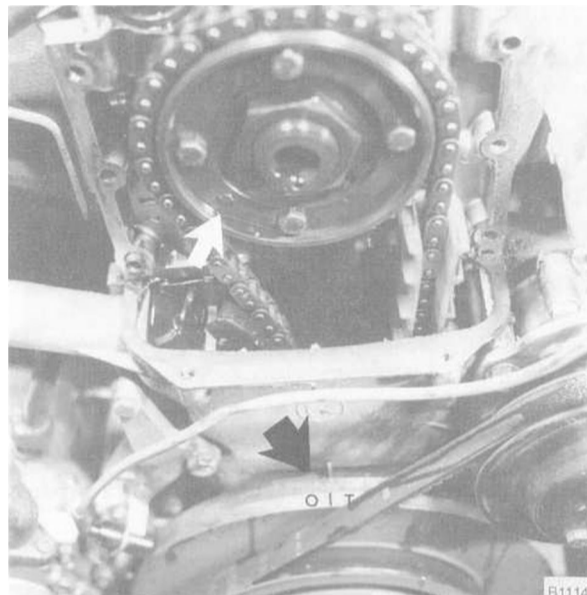

Fig. 25. OAT (top dead center) mark on vibration damper aligned with mark on timing chain cover (arrow). Note position of sprocket locating dowel.
At TDC, the 0/T mark on the vibration damper will be aligned with the cast boss on the lower timing chain cover and the camshaft sprockets bolts will be straight up and down with the locating dowel in the lower left corner of the sprocket. See Fig. 25.
2. Install a new crankshaft oil seal in the lower timing chain cover and apply a light coat of engine oil to the seal. Temporarily install the lower cover. Temporarily install the crankshaft woodruff key together with the crankshaft hub/vibration damper. Check that both the camshaft and the crankshaft are set at Top Dead Center (TDC) as shown earlier in Fig. 25.